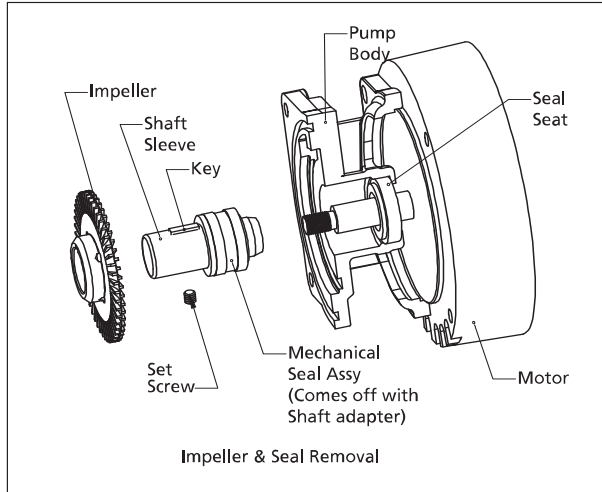

Figure 4 - Impeller, Sleeve and Seal Assembly Removal
- The impeller (Ref. No. 7) floats on the pump shaft sleeve (Ref. No. 5); therefore it can be readily removed (See Figure 4).
- Loosen set screw (Ref. No. 11) on pump shaft sleeve (Ref. No. 5). The pump shaft sleeve is threaded on the motor shaft. Turn the pump shaft sleeve counterclockwise to remove (See Figure 4).
- The seal (part of Ref. No. 4a) will come off with the shaft sleeve (Ref. No. 5) (See Figure 4).
Seal Assembly Removal and Installation (Figures 4 thru 7)